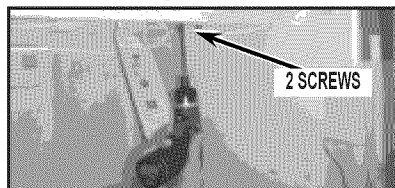

FIGURE 4
6. Using a 1/4" nut driver remove the two screws from under the water filter door. See *Figure 4*.